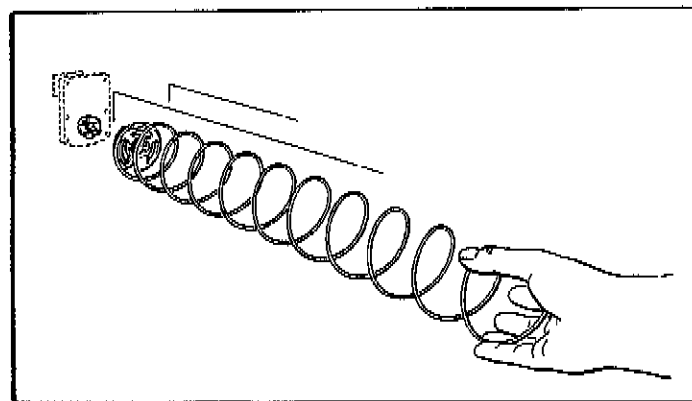

Figure 2. REMOVING AND INSTALLING SPIRAL.
4. **REMOVAL OF SPIRAL:** Grasp the front of the spiral and turn it clockwise. Lift the spiral up and off of the spiral lock. When replacing a spiral attach it around the tab on the spiral lock and turn the spiral counterclockwise to lock it in place. Be sure the front end of the spiral is positioned properly (with the front end of the spiral pointing downward on the left side) (see Figure 2). The spiral lock is attached between the spiral retainer tabs. Give a light forward pull on front of the spiral to check if it is locked in place.
These spirals are removed and installed the same as the large spiral (see Figure 2), except that the front end position is different (approximately 5 o'clock) (see